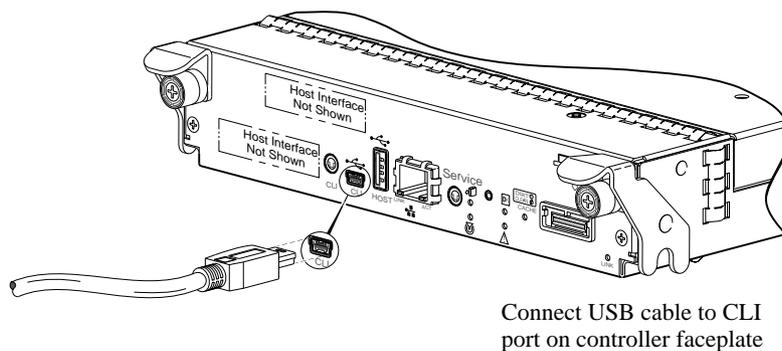

Figure 24 USB device connection — CLI port
Phoenix RPC12 series controllers contain two different USB (universal serial bus) management interfaces: a *Host* interface and a *Device* interface. Both interfaces pertain to the Management Controller (MC), and each interface is accessed via its port on the controller module face plate. The port labeled Host (USB Type A) is reserved for future use, and its discussion is deferred. This appendix describes the port labeled CLI (USB Type B), which enables direct connection between a management computer and the controller, using the command line interface and appropriate cable (see Figure 24 for USB port locations).